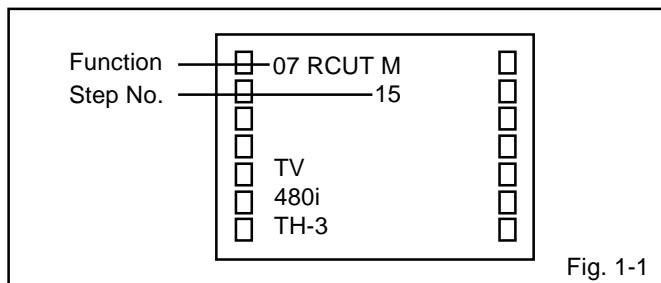

Fig. 1-1
2. Press the VOL. DOWN button on the set and the Channel button **(9)** on the remote control for more than 2 second to appear the adjustment mode on the screen as shown in **Fig. 1-1**.
- Activate the adjustment mode display of **Fig. 1-1** and press the channel button **(53)** on the remote control to select "CON MAX".